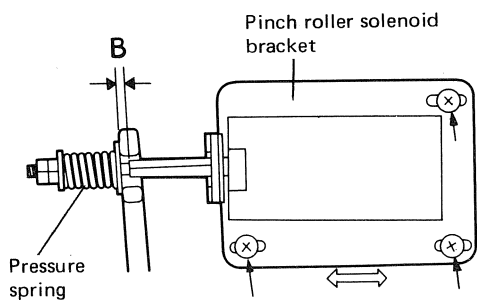

Fig. 9
3. Check to ensure that clearance B in Fig. 9 is 1mm.